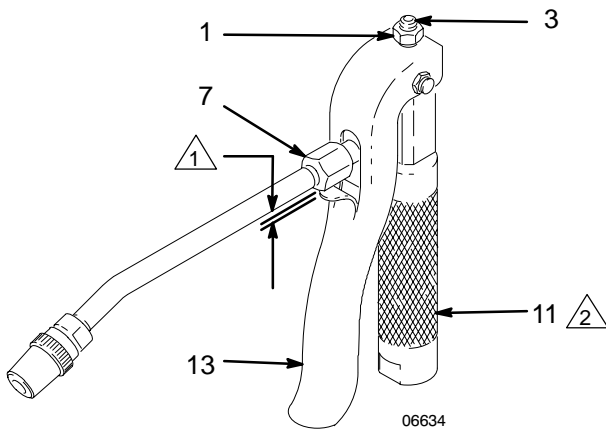

Fig. 1
2. Check for a minimum 0.187 in. (4.7 mm) clearance between the trigger (13) and the outlet adapter (7). See Fig. 1.
3. To adjust the clearance, loosen the locknut (1) and turn the adjusting screw (3) in or out as needed. Hold the adjusting screw in place and securely tighten the locknut.